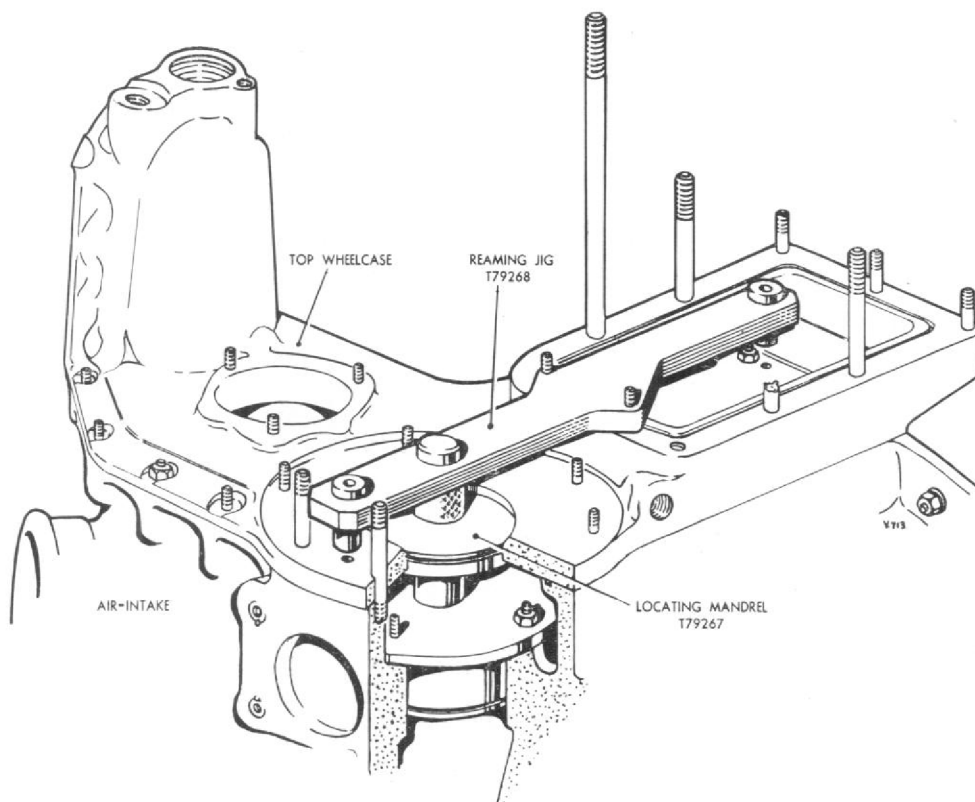

Fig. 8. Reaming jig in position on Ghost 48 Mk. 2 or 53 Mk. 1 top wheelcase.
3. Place reaming jig T.79268 in position on the top wheelcase so that the locating hole in the jig passes over the small end of the locating mandrel, and the locating bushes on the jig are aligned with the dowel holes, Fig. 8. Locate the jig with the appropriate locating pin in the dowel hole which is to be rectified; three locating pins T.78546, T.78550, and T.78554 are available to suit standard, 0.010 inch, and 0.020 inch oversize holes